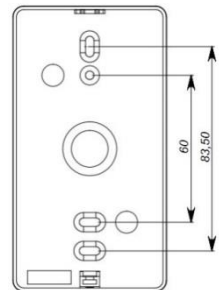

Figure 3
- Mount the back plate of reader on the wall using the fixtures provided (see fig. 3).